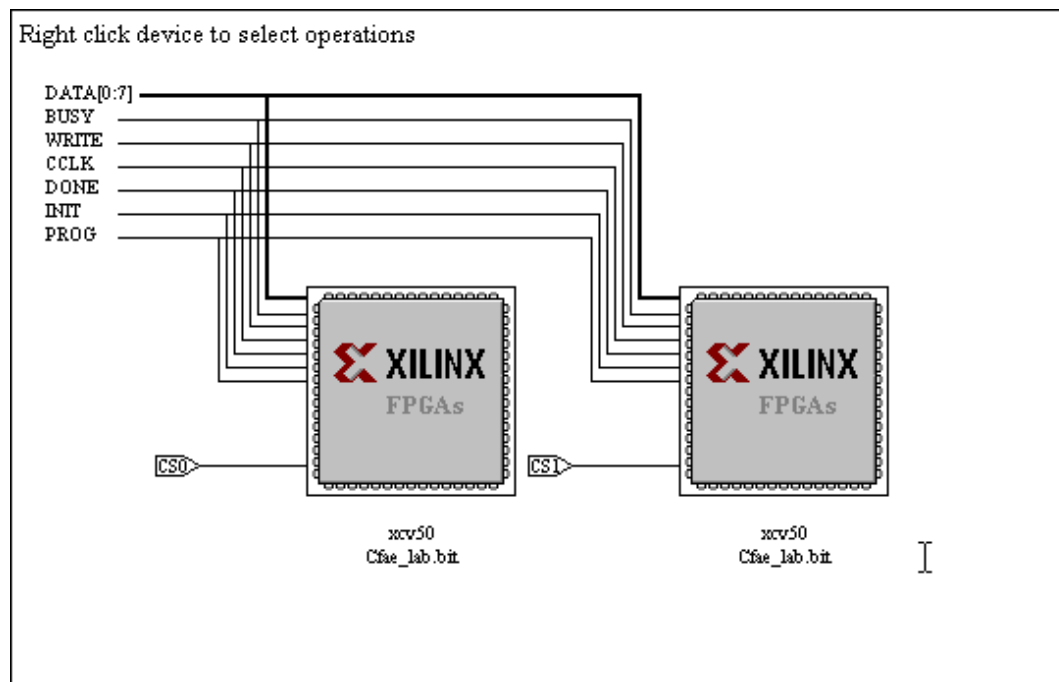

Figure 4-23 Two Devices Added for SelectMAP Configuration
Once a BIT or RBT file is selected the device appears in the iMPACT window. Up to three devices can be added. Figure 4-23 shows an example where two devices have been added. Notice that each one has a different Chip Select (CS) pin. These correspond to the CS pin on the MultiLINX Cable. Make sure that the correct CS pin is connected to the correct device. The CS pins are swapped by dragging and dropping the pins in the window.